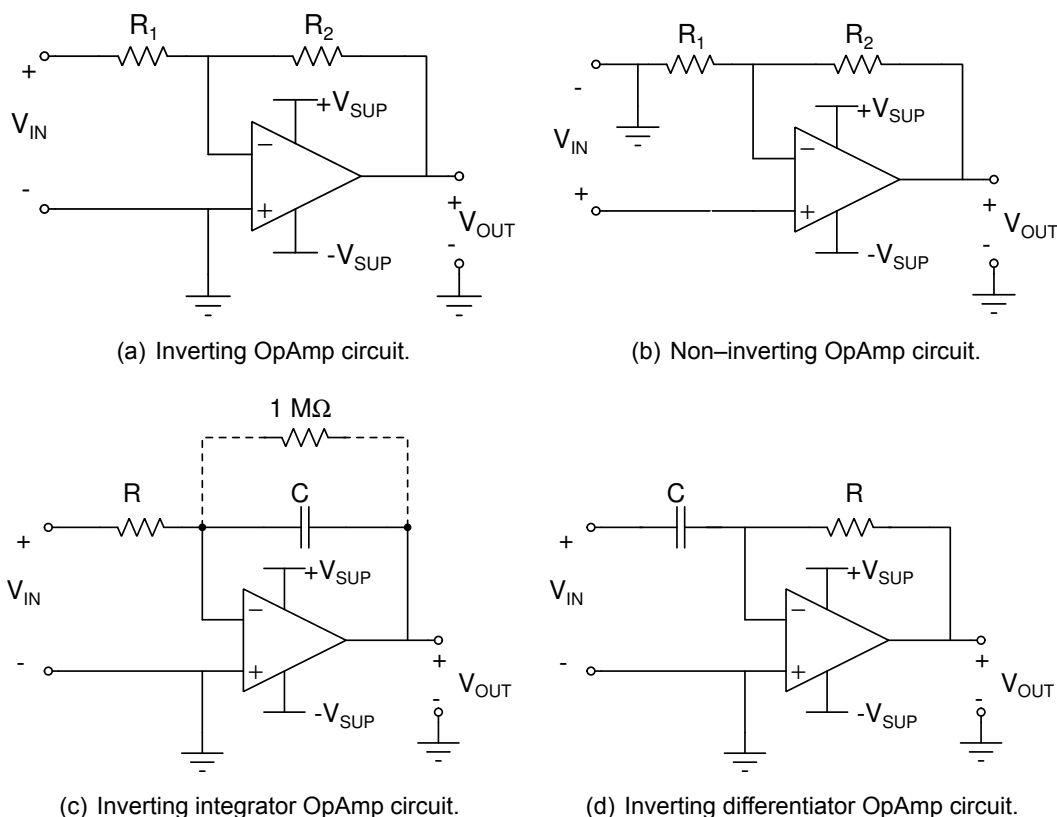
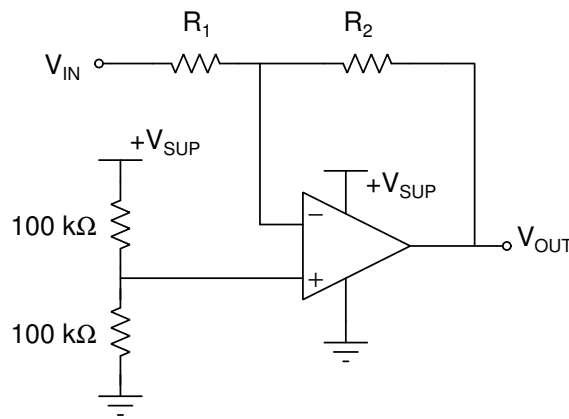

Figure 1: Four basic OpAmp circuits using negative feedback.
Figure 2: Inverting OpAmp circuit operated from a single power supply.
1. Review the ideal OpAmp circuits from ECE 210 and make sure you are able to calculate the  $V_{OUT}(t)$  as a function of  $V_{IN}(t)$  for each of the four OpAmp configurations shown in Figure 1. These OpAmps use dual-rail voltages, and negative feedback to achieve amplification within the active region of operation.
2. Design an inverting OpAmp circuit, shown in Figure 1(a), to produce a gain of -4.7 V/V.
4. Design a non-inverting OpAmp circuit, shown in **Figure 1(b)**, to produce a gain of +8 V/V.
6. All OpAmp circuits can be modified to operate from a single rail voltage. This is illustrated for the inverting amplifier in **Figure 2**. In this circuit,  $-V_{SUP} = 0$  V, and the non-inverting input ( $v_n$ ) is biased at  $+V_{SUP}/2$ . Draw the schematic of the non-inverting OpAmp configuration shown in **Figure 1(b)** when operated from a single rail voltage.
- (a) Turn on the Dual Voltage Supply (PS) and turn all voltages down to zero. Set the Tracking Ratio knob fully clockwise till it clicks. Attach the ends of extra long wires between (a) the PS common, adjustable +20, and adjustable -20 volt terminals, and (b) the ground,  $+V_{SUP}$ , and  $-V_{SUP}$  terminals in your circuit.
- (c) Connect the function generator (FG) to the input of the OpAmp circuit. Adjust the FG to output a sine wave of 0.5 Vp at a frequency of 2 kHz. Connect one channel of the oscilloscope to the FG output and the other channel to the output of the OpAmp. What are the gain and phase shift of the output with respect to the input? How do these results compare with simulated predictions? Record the results in your notebook.
3. Build the inverting integrator circuit in Figure 1(c) with  $R = 1\text{ k}\Omega$  and  $C = 0.1\text{ }\mu\text{F}$ . The  $1\text{ M}\Omega$  resistor across the capacitor provides a DC path from the output to ground. What is the relationship between  $V_{OUT}$  and  $V_{IN}$  for this circuit?
4. Build the inverting differentiator shown in Figure 1(d) with  $R = 1\text{ k}\Omega$  and  $C = 0.1\text{ }\mu\text{F}$ . What is the relationship between  $V_{OUT}$  and  $V_{IN}$  for this circuit?